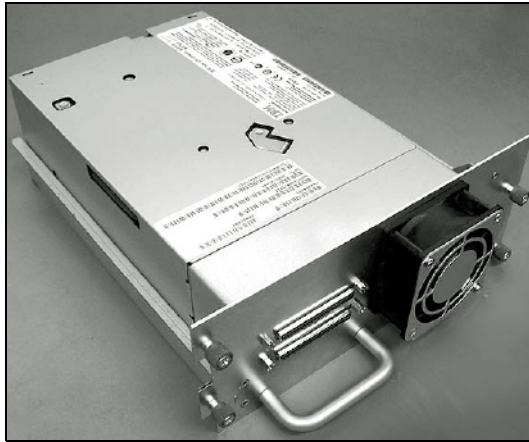

Figure 8-9 Library drive sled with an Ultrium 4 SCSI Tape Drive
Each IBM Ultrium 4 Tape Drive contains the electronics and logic for reading and writing data, controlling the tape drive, managing the data buffer, and handling error recovery procedures. Because of its special design as a CRU, the drive can easily be replaced if necessary. Figure 8-9 on page 197 shows the Ultrium 4 drive sled with a SCSI interface. The same drive sled can also contain the 4 Gbps Fibre Channel drive or the SAS drive. For additional details, refer to 2.4.1, “IBM LTO4 Full-High (FH) Tape Drive” on page 76 and to 2.4.2, “IBM LTO4 Half-High (HH) Tape Drive” on page 77.